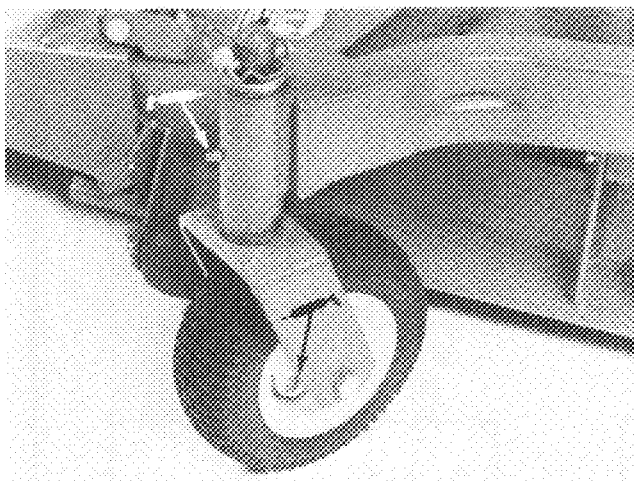
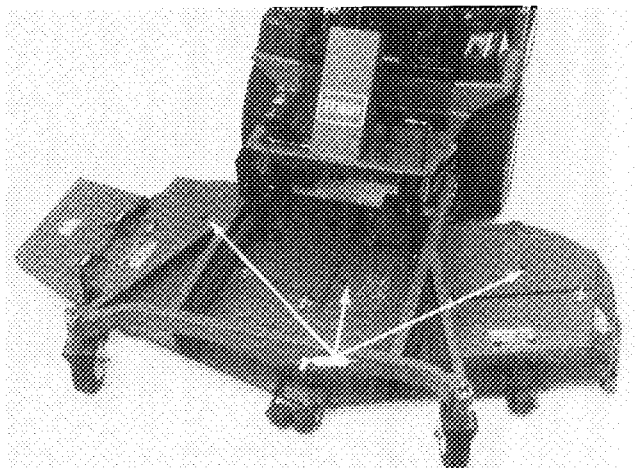

Figure 19
Figure 20
1. The cutting unit lubrication points are: castor spindle bushings (Fig. 19); castor wheel bearings (Fig. 19); and blade spindle bearings (Fig. 20).